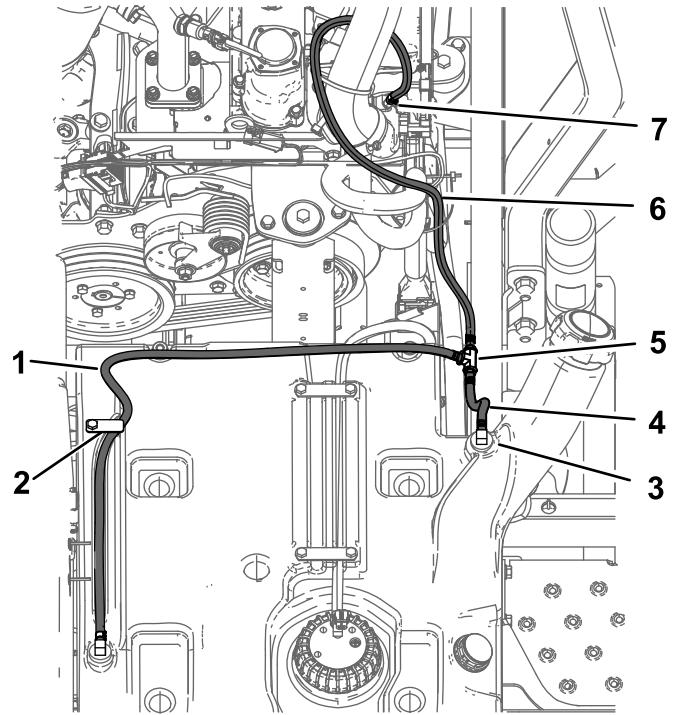

Figure 4
1. Bolt—3/8 x 3 inches (2)
2. Washer (2)
4. Remove the vent strap and retain the bolt (Figure 4).
5. Disconnect the left fuel hose from the fitting near the filler neck and tee fitting (Figure 4).
6. Disconnect the rear fuel hose from the engine manifold port and tee fitting (Figure 4).
7. Disconnect the right fuel hose from the front fitting on the right side of the fuel tank and the tee fitting (Figure 4).